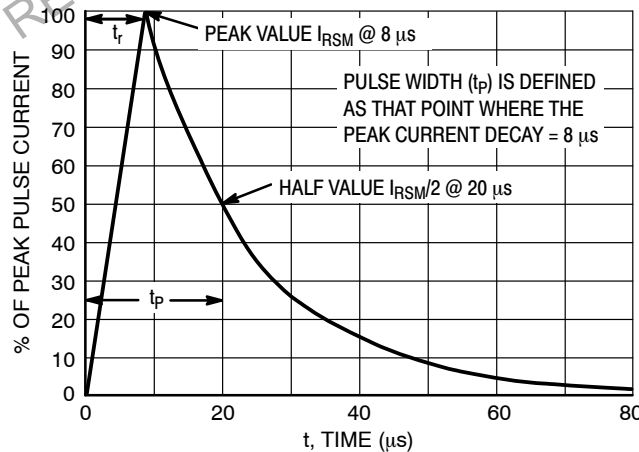

Figure 10. 8 x 20 μs Pulse Waveform
- Non-repetitive current pulse at TA = 25°C, per IEC61000-4-5 waveform, See Figure 10.